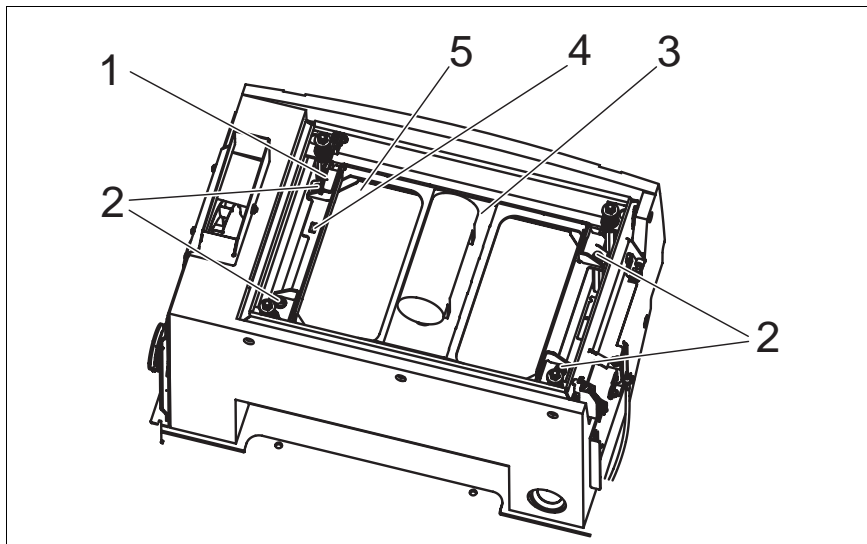

Fig. 16 Plate filter
- Loosen fillister head screws (Fig. 16/2) and remove.
- Fold back frame with electro-motor (Fig. 16/3).
- Hook frame at indicated position (Fig. 16/4).
- Remove plate filter (Fig. 16/5).